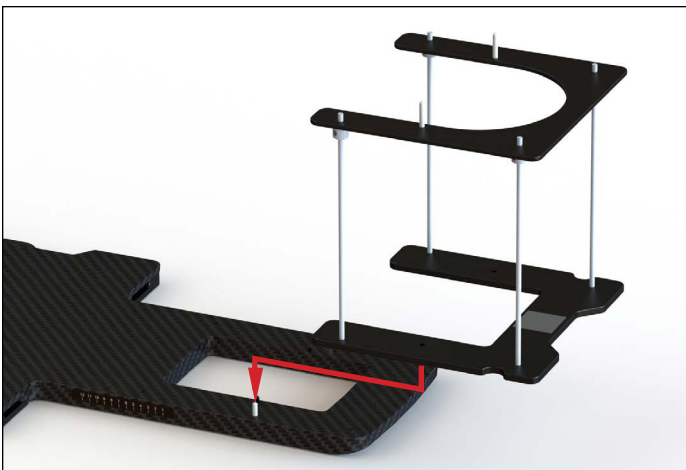

Fig. 3
3. With the patient in place mount the Prone CSA kit using the white indexing pins on the device to line up with the holes on the base plate of the Prone CSA Kit (Fig 3 & 4).